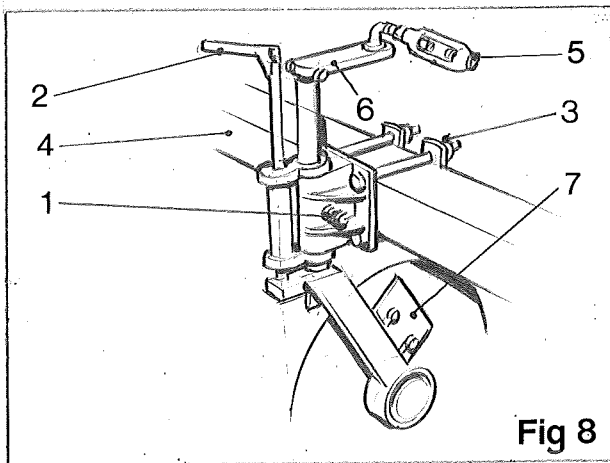

Fig 8
The Statesman is fitted with four 64 cms disc coulters, one either side of the digger shares. The discs are designed to cut down and part haulm and weed, whilst simultaneously feeding the ridge onto the 1st sieving web. The discs are adjustable for depth of work and for different row settings. To adjust the discs for depth, loosen the locking bolt (item 1, fig 8) and turn the adjusting screw (item 2, fig 8). Once the required position is obtained, resecure with the locking bolt if required. The locking bolt is fitted so that, if necessary, the disc coulters can be fixed, to stop them from swivelling. To adjust for different row centres, slacken the four retaining bolts (item 3, fig 8) and slide the complete assembly along the support beam (item 4, fig 8) to the required position. The disc coulters can also be adjusted for different row widths by slackening the four retaining bolts (item 3, fig 8) and removing the adjustable tie bar (item 5, fig 8) from the disc arm (item 6, fig 8). Slide the disc assembly to the required position and tighten the retaining bolts (item 3, fig 8). Finally re-assemble the tie bar (item 5, fig 8) with the disc arm. Once assembled, ensure the discs are tracked correctly, ensuring they are parallel with each other. The discs are fitted with scrapers (item 7, fig 8). These must be kept as close to the disc as possible to enable efficient operation.